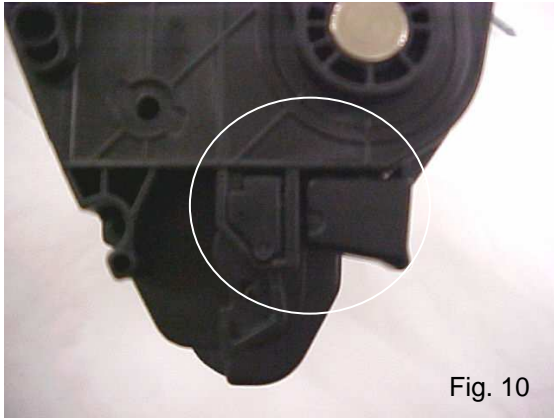

Fig. 10
8. Trigger Arm Locking Pin Assembly. This will fix the PCR Contact Trigger into position (Fig. 10).